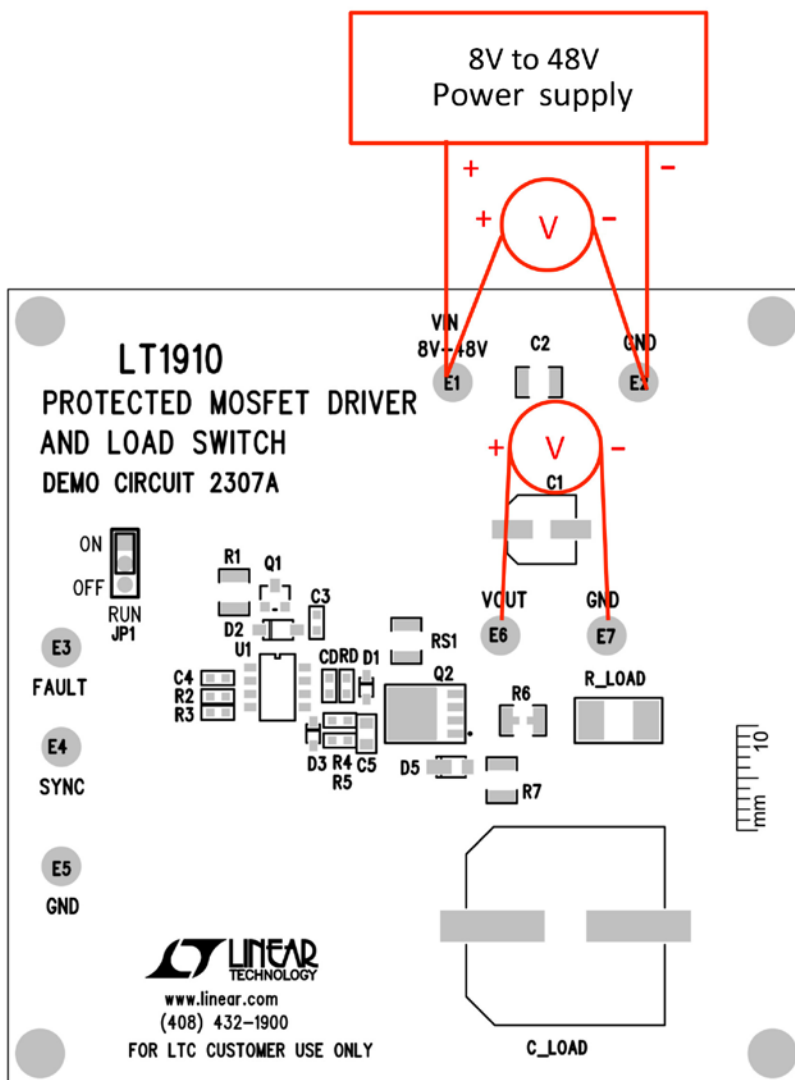

Figure 1. Proper Measurement Equipment Setup
The setup for DC2307A evaluation is shown in Figure 1. Sync pulses can be applied to terminals E4 (SYNC) E5 (GND) for synchronization to an external clock. In this case, the DC2307A supports a low bandwidth PWM. Figure 2 illustrates functionality of such solution with 100Hz switching frequency. Figure 3 shows the waveforms of the high side switch driver during a short-circuit with automatic restart.
Demonstration circuit 2307A is easy to set up to evaluate the performance of the LT1910. Set up the circuit according to the diagram in Figure 1.
1. With the DC2307A set up according to the proper measurement and equipment as shown in Figure 1, apply 20V at E1 (VIN). Measure VOUT; it should read 0V.